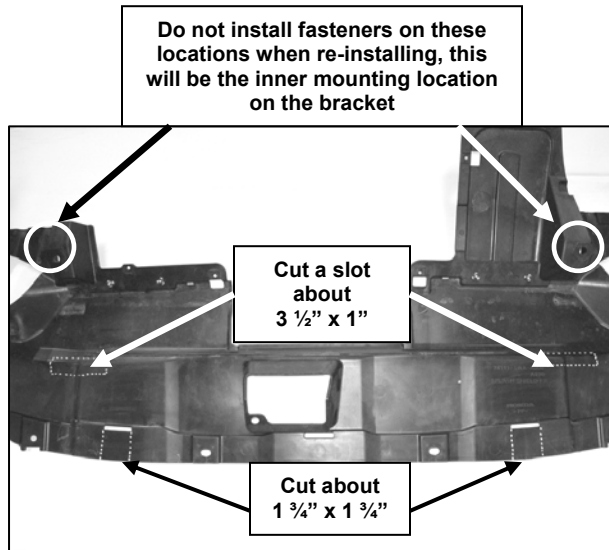

Figure 1
- Using a flat screwdriver carefully remove all fasteners from factory plastic shroud on top and underneath the vehicle. On the bottom there are (4) on the front and (3) on each side by the fender. On the top there are (7) fasteners.
- Remove bottom plastic shroud and place it on a working area. Using a hack saw carefully cut the marked area shown in Figure 1.
- Re-install the bottom factory plastic shroud with original fasteners. **NOTE:** Do not install the two fasteners shown in Figure 1.